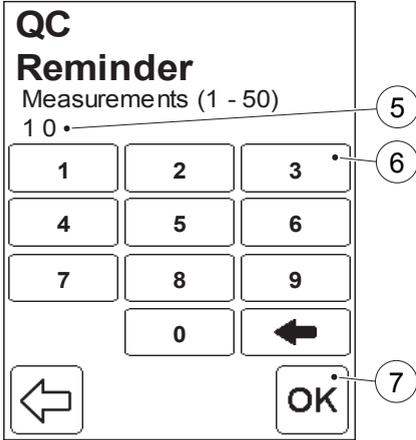

FIGURE 4-75
c) To adjust the number of measurements for the reminder so that it corresponds with the new value for the number of measurements before QC lockout, press Adjust. After adjusting to an acceptable value (See *FIGURE 4-75*), there will be a return to the QC Test Settings menu, *FIGURE 4-65*. Otherwise, to return to *FIGURE 4-72*, press No. The selected time/Number of measurements until the next QC lockout will then need to be adjusted, in order to correspond with the defined reminder.